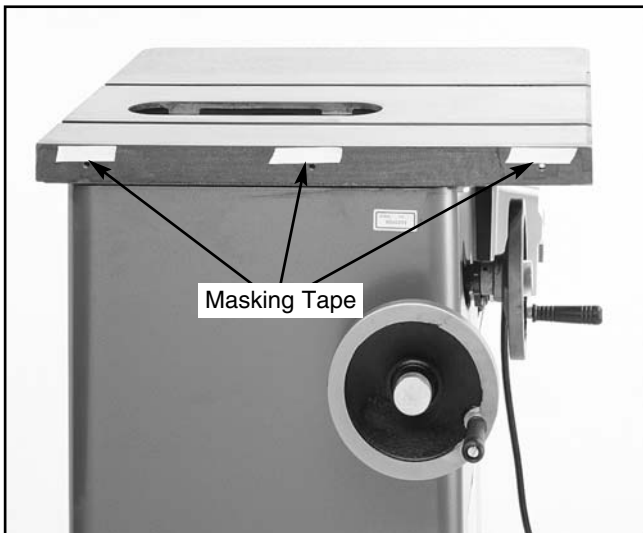

Figure 5.
9. If the wing tilts up, remove the wing and stick layers of masking tape over each bolt near the top edge. Re-install the wing and check the flushness again. **Figure 5.**